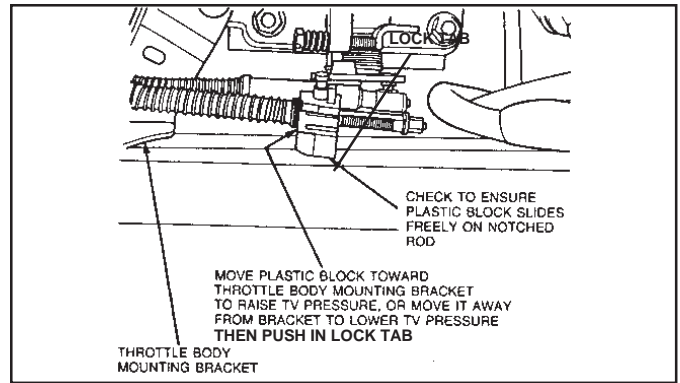

Figure 28
7.12 Using mark or measurement on plastic block as a reference, move plastic block towards throttle body mounting bracket to raise TV pressure, or move it away from bracket to lower TV pressure. Push in white locking tab to lock block in position. (See Fig. 28.)